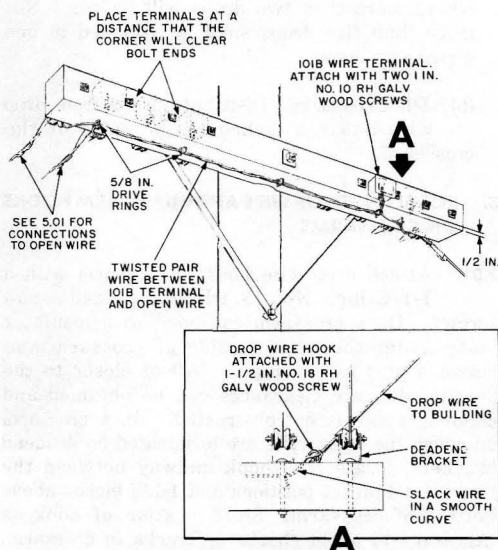

Fig. 3—Wiring Arrangement on DE Crossarms not Having Back Braces
4.11 Crossarms equipped with deadend brackets (Fig. 3).
- 4.13** At double crossarms equipped with deadend brackets, follow the general wiring method as shown in Fig. 3, locating the 101B terminal on the outer side of the crossarm not equipped with deadend brackets. Locate the wire run on the underside of the same crossarm.